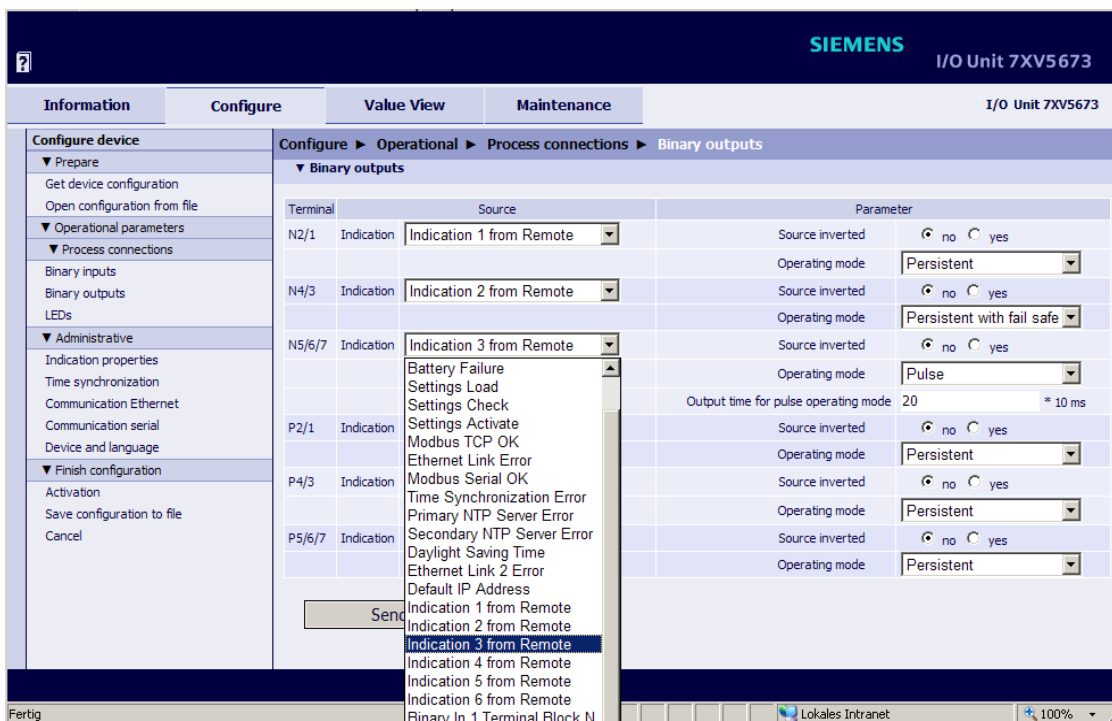

Figure 6-66 Settings of the 6 Binary Outputs
- ✧ Parameterize the indications and modes of the binary outputs according to Figure 6-66.
- ✧ Parameterize the messages and modes of the binary outputs according to Figure 6-66.
Parameterize the messages and modes of the binary outputs according to Figure 6-66.